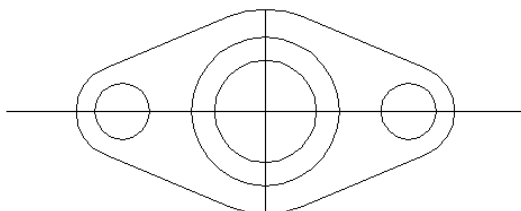

Figure 10-2: The completed mounting plate.
8. At the Specify first point of mirror line: prompt, pick the intersection ❷. At the Specify second point of mirror line: prompt, pick the intersection ❸. Press Enter again at the Delete source objects? [Yes/No] <N>: prompt.
9. The command completes the mounting plate. Save your drawing. It should look like Figure 10-2.